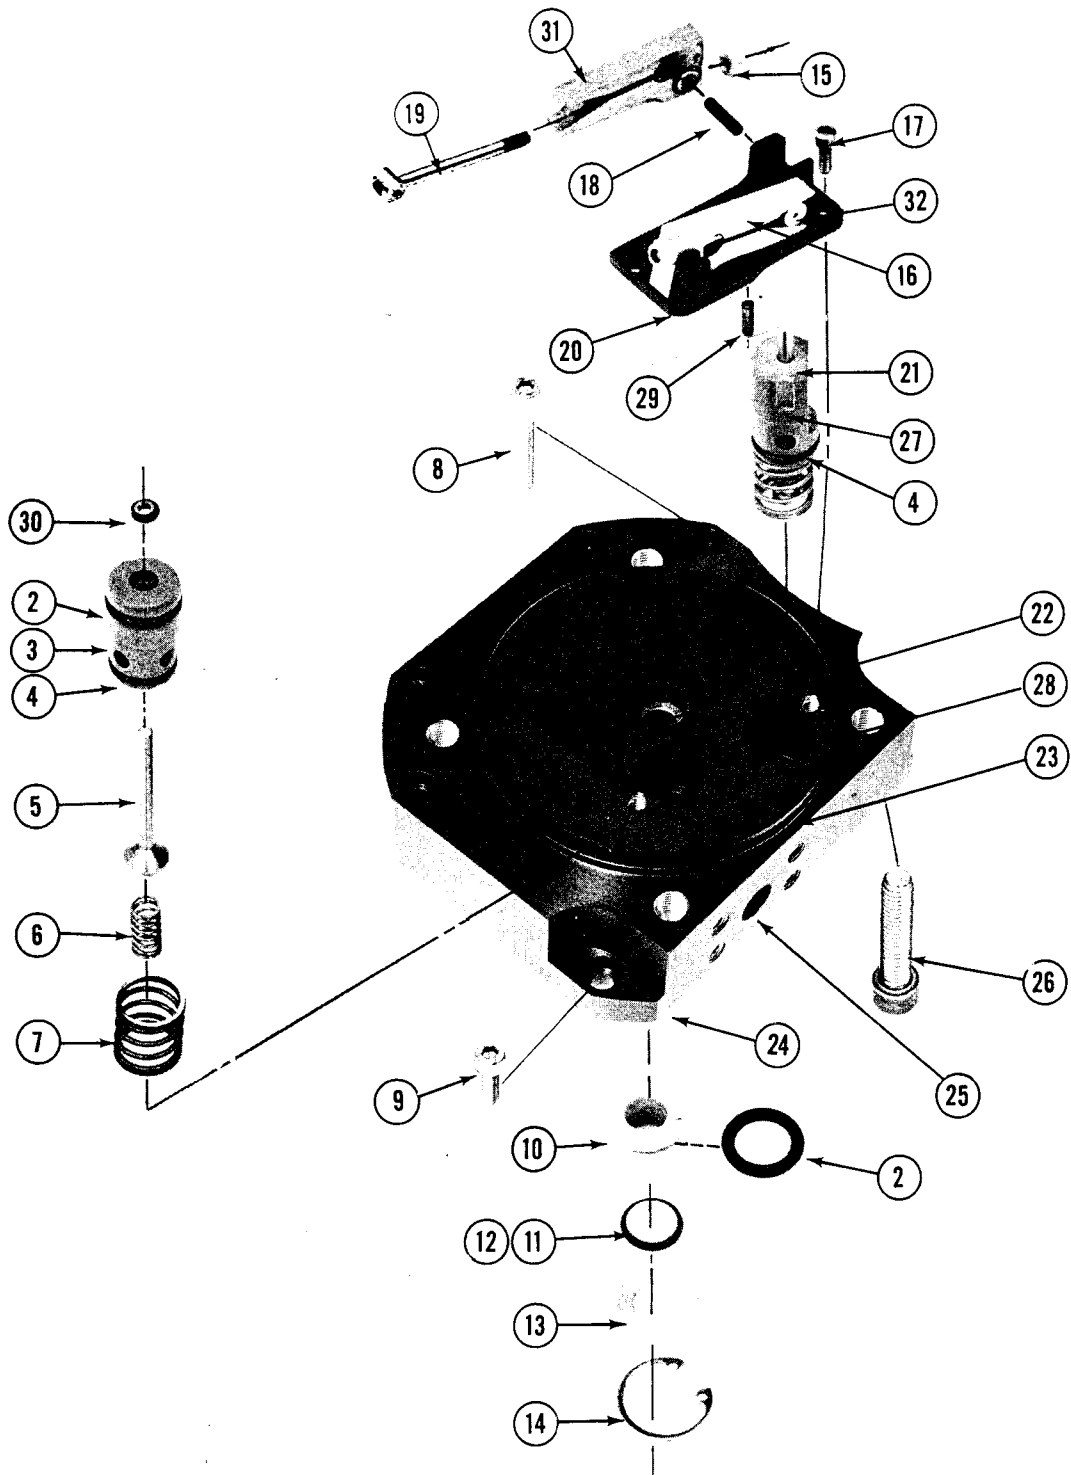

FIGURE 6-4 THE VALVE PLATE--EXPLODED VIEW
(16)... Reinstall the support bracket and the rocker-arm assembly, engaging the locating pin (29, Figure 6-4) in the locating notches of both the exhaust-valve body and the valve cavity. Secure the support bracket with the cap screws previously removed.
LEGEND - FIGURE 6-4